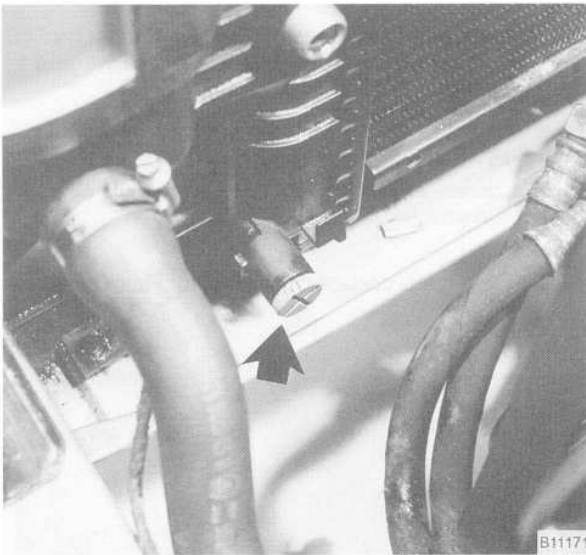

Fig. 5. Radiator drain plug (arrow).
3. Place a 3-gallon pail beneath the radiator drain plug. Remove the drain plug. See Fig. 5.